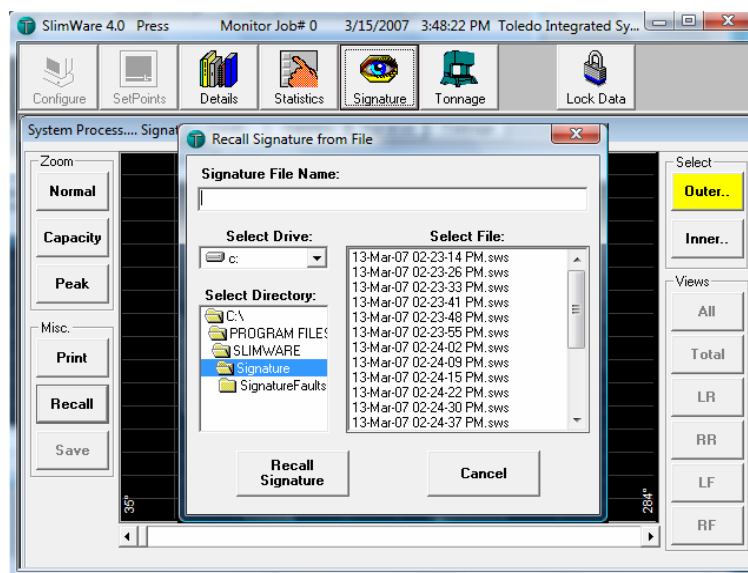

Figure 9.7 - Recall Signature From File Prompt Box
- The **Recall Signature From File** prompt box will be displayed as shown in Figure 9.7. Signatures that were produced and saved using SlimWare, will have the extension **sws** (SlimWare Signature). Select the signature file you wish to open from the **Select File** list box.